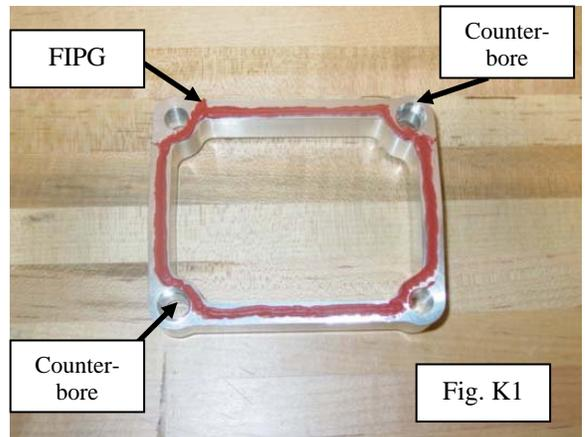

Fig. K1
- 1. Apply FIPG sealant to the lower-side (“LWR” mark) of the supplied spacer. (Fig. K1) The lower-side also contains two counter-bores to locate on the dowels in the transmission case.